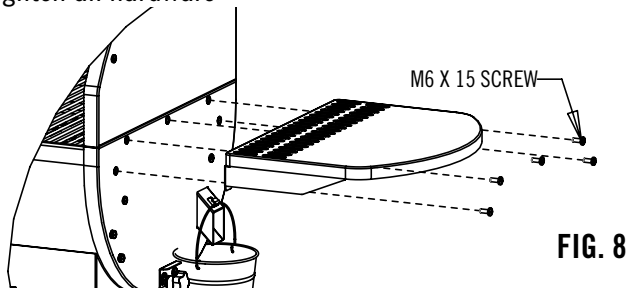

FIG. 8
1. Install shelf as shown in Fig 8.